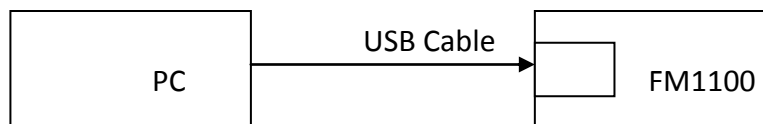

Figure 58 Connect FM1100 to PC and configure
FM1100 can be configured using “SCAN” function or “Offline Configuration” (Figure 58)
2. Disconnect LV-CAN200 or ALL-CAN300 from FM1100, and connect PC USB cable to FM1100 Device (Figure 58). It is very important not to disconnect FM1100 from power source, because then all CAN data will be lost.